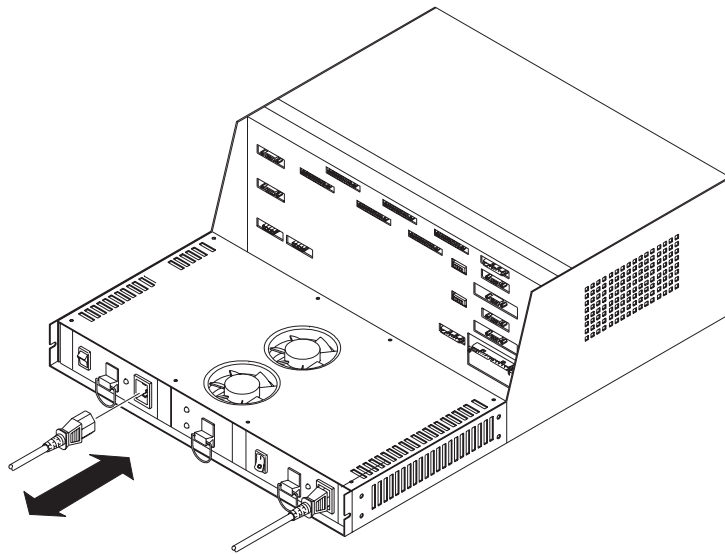

Figure 27. Turning Off the Power and Unplugging the Power Cord
3. Turn off the power switch and unplug the power cord from the failed power supply (Figure 27 on page 51).
6. Plug in the power cord and turn on the power (Figure 27 on page 51).